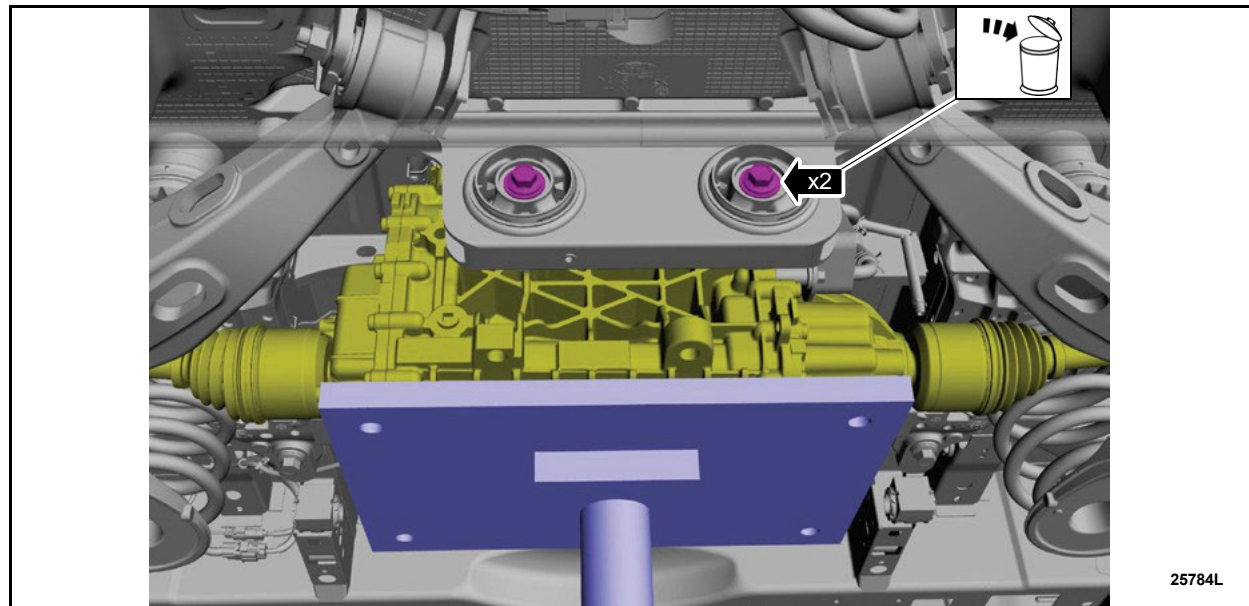

FIGURE 16
20. Remove and discard the front side bolts from the rear electric drive assembly. See Figure 16.